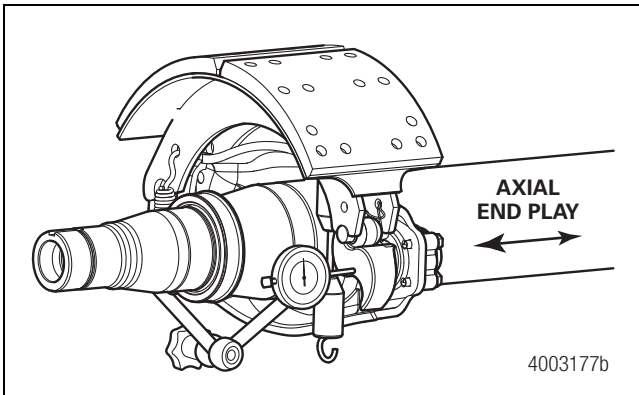

Figure 4.7
- Check the axial end play of the camshaft. If total movement is more than 0.060-inch (1.52 mm), replace the bushings, camshaft or both as specified in Section 11. Figure 4.7.